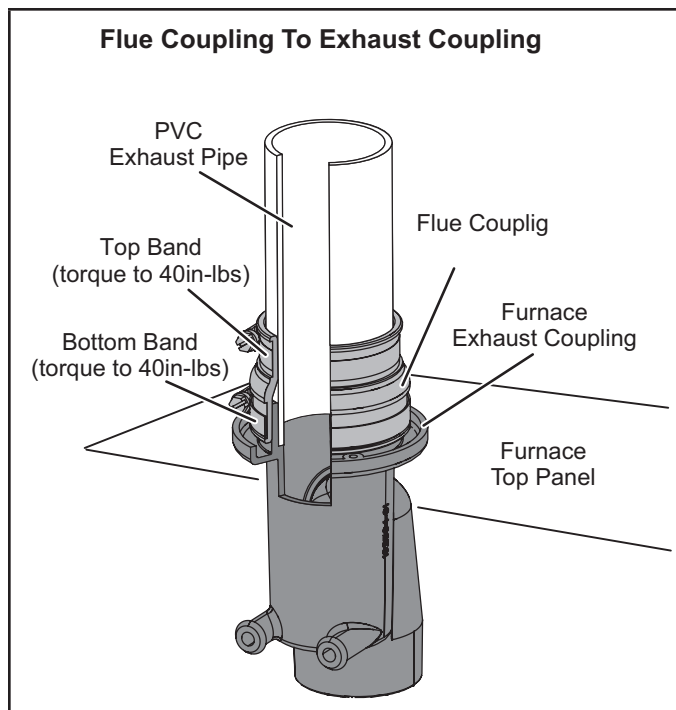
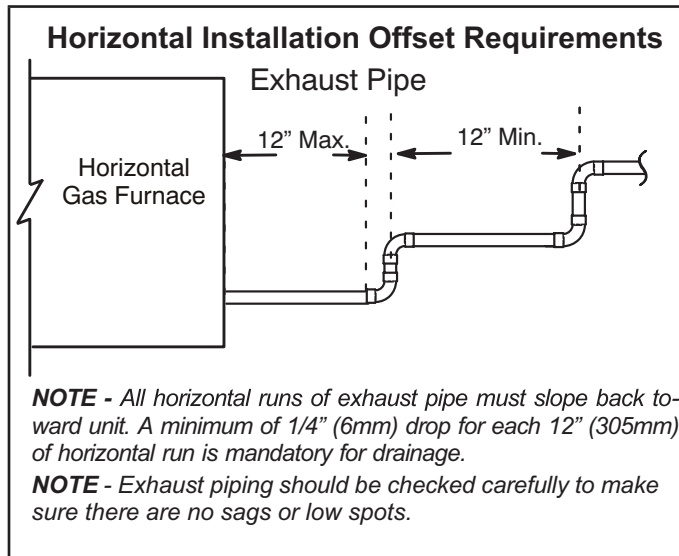

FIGURE 17
FIGURE 18
NOTE - Vent pipe must be installed with flue coupling See FIGURE 17.
Exhaust Piping (FIGURE 17, FIGURE 18, FIGURE 20 and FIGURE 21)
- 4 - Tighten both top and bottom bands to 40in-lbs. See FIGURE 17.